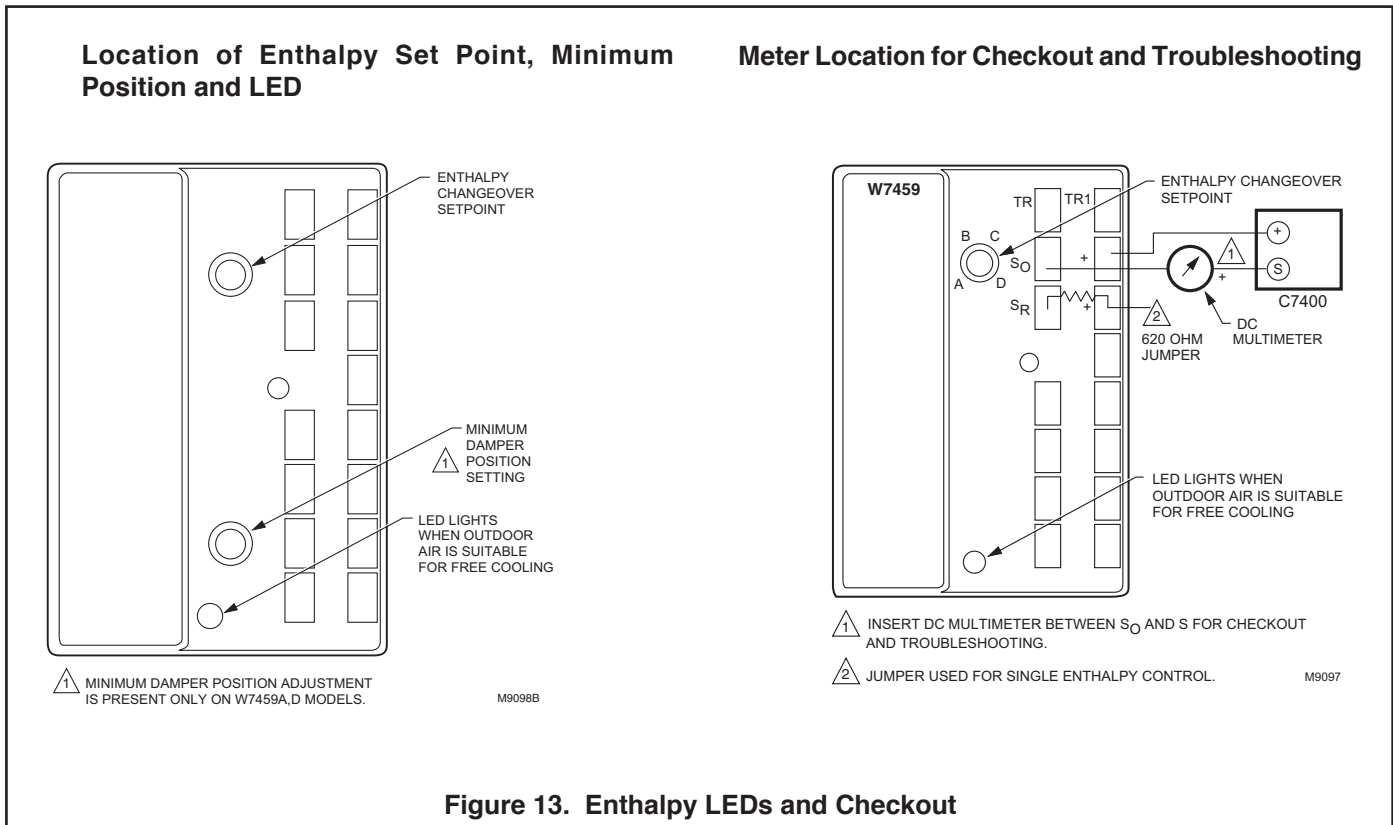

Figure 13. Enthalpy LEDs and Checkout
2. Connect a DC multimeter between terminal So of the W7459A and terminal S of the enthalpy sensor. See Fig. 13 (positive meter lead to terminal S of the enthalpy sensor).	Multimeter indication is between 3 and 25 mA if sensor is operating properly. If multimeter indicates zero, the sensor may be wired backward.